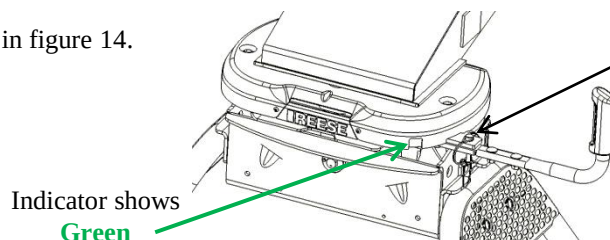

FIG. 14
- 3) Insert bail pin into lock hole, as shown in figure 14.